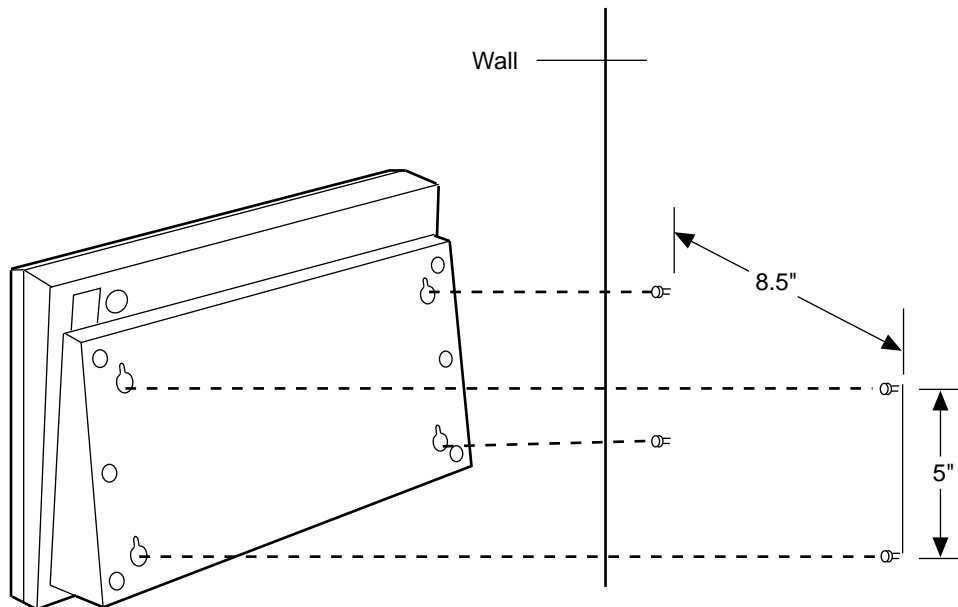

FIGURE 5-15. Mounting the 6508 Telephone on the Wall
12. Mark points on the wall where you will place four #8 screws. (These screws will hold the base of the telephone.) The four screws should form an 8 1/2 inch wide by 5 inch high rectangle. See Figure 5-15.
15. Mount the 6508 on the four screws by placing the holes in the base over the heads of the screws and sliding the set downward. See Figure 5-15.